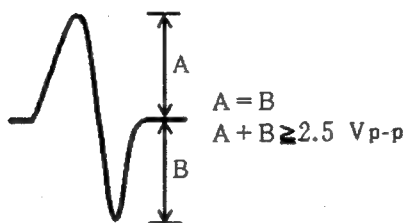

Figure 8
3. While watching the oscilloscope screen, press the PGM key and observe the wave form in Figure 8 for a moment. Verify that the amplitude is at least 2.5 Vp-p and that the positive and negative amplitude are about equal. Since the wave form is only output for a moment when the PGM key is pressed, press this key over and over until you have checked the wave form.